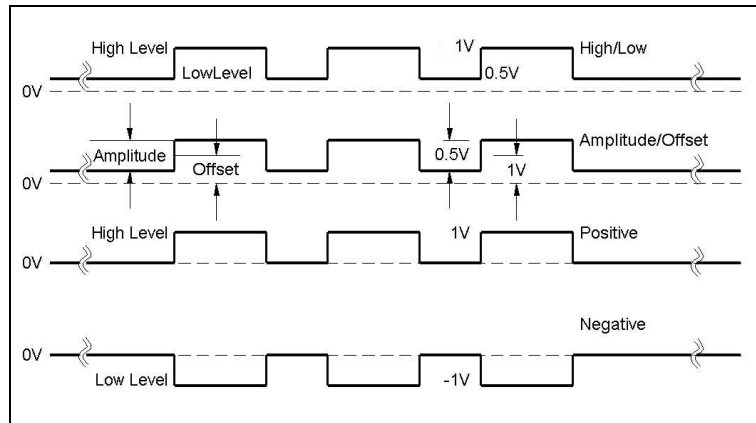

Figure 3-62, Amplitude Level Modes Options
Using the SE5082 as your pulse source, you have four options to set up the pulse levels, as shown in Figure 3-62 and explained below:
1. **High/Low Levels.** This is the default option. Using this mode, you can program the high and the low levels directly, while allowing the instrument to set the internal amplitude and offset according to your selection. The maximum amplitude that can be programmed depends on the installed output module. Note that the amplitude level is specified when the pulse is applied on a 50Ω load impedance. The only way to exceed the peak-to-peak rail limitation is by increasing the load impedance, but then expect degradation of the pulse shape. The example in Figure 3-62 shows the high level set at 1 V and the low level set at 0.5 V and therefore, the resulting peak-to-peak level is 0.5 V.
2. **Amplitude/Offset.** This option allows separate modification of the amplitude and the offset. This option is very useful when you want to vary the vertical position of the pulse, but hold the peak-to-peak amplitude level fixed. The example in Figure 3-62 shows the amplitude set at 0.5 V and the low level set at 1 V and therefore, the resulting waveform is exactly as was programmed in the high/low level programming example.
3. **Positive.** This option is very useful when you want to vary the positive position of the pulse, but hold the low level fixed at the 0 V level. The example in Figure 3-62 shows the high level set at 1 V and the low level fixed at 0 V. Modification of the high level will not alter the low level position.